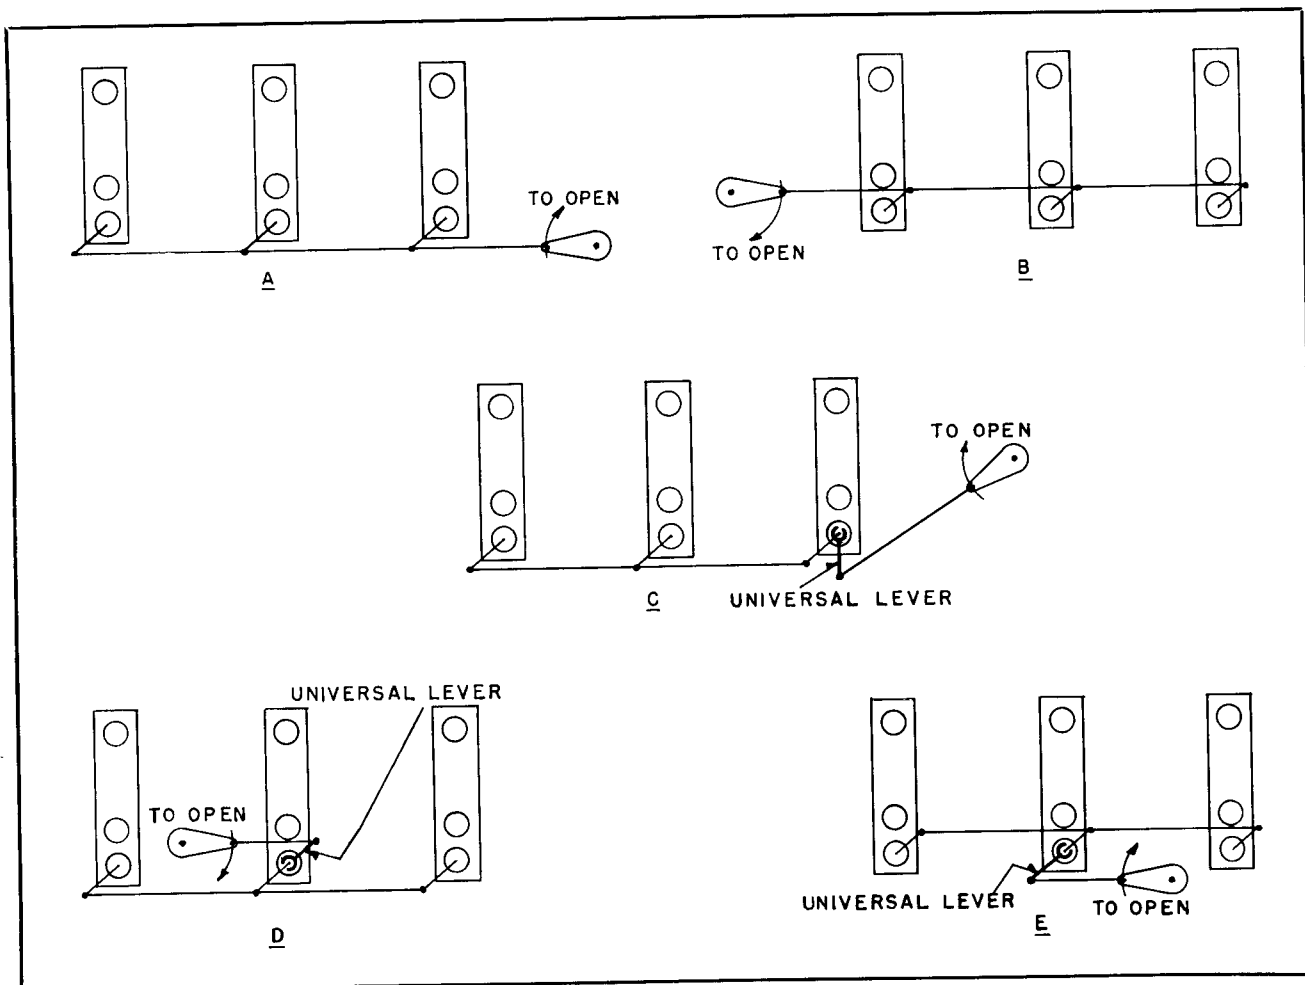

Fig. 4. Schematic Views showing several possible Arrangements of the Outboard Bearing, Connecting Pipe and Universal Lever
(B) When using an offset mechanism, and when the outboard pipe and the interphase pipes are in a straight line when the switch is closed, (Figs. 4-A or 4-B), the universal lever is not used. If the outboard pipe is not in line with the interphase pipes, see Figs. 4-C, 4-D, 4-E, the universal lever should be used.
(D) If it is desired to operate the switch from the left as shown in Figs. 4-B and 4-E. It will be necessary to change the factory setting of the pole unit operating levers at the base of the rotating insulators by 180°. To make this change, remove the four bolts which hold the operating arm to the top of the rotating insulator. Turn the insulator 180° and reinsert and tighten the bolts.